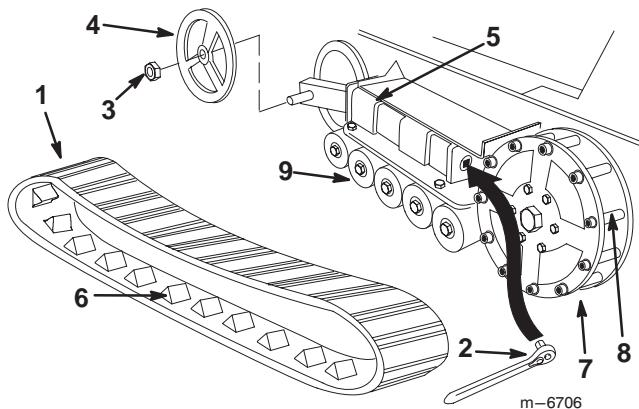

Figure 3
3. Using a 1/2 inch drive socket, release the drive tension by turning the tensioning screw clockwise (Fig. 3).
4. Push the tension wheel toward the rear of the unit to move the fork tube against the frame (Fig. 3). (If it does not touch the frame, continue turning the tensioning screw until it does.)
7. When the track is off of the tension wheel, remove it from the drive wheel and road wheels (Fig. 3).